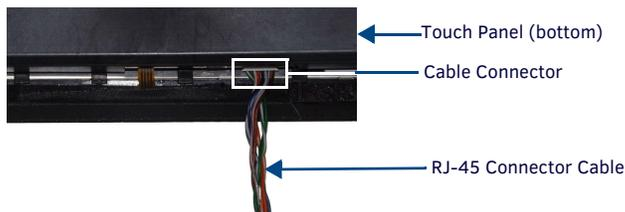

FIG. 3 RJ-45 connector cable inserted into MSD-701-L/2 connector
- From the bottom of the touch panel, gently remove the male cable connector from its outlet (FIG. 3).